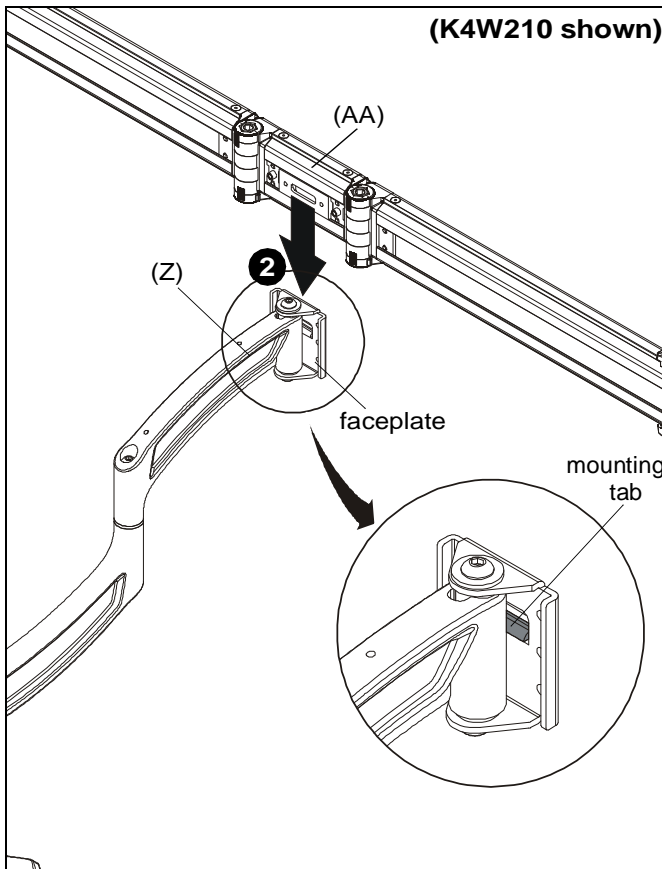

Figure 6
2. Hang array center (AA or BB) onto mounting tab on arm assembly (Z) faceplate. (See Figure 6)